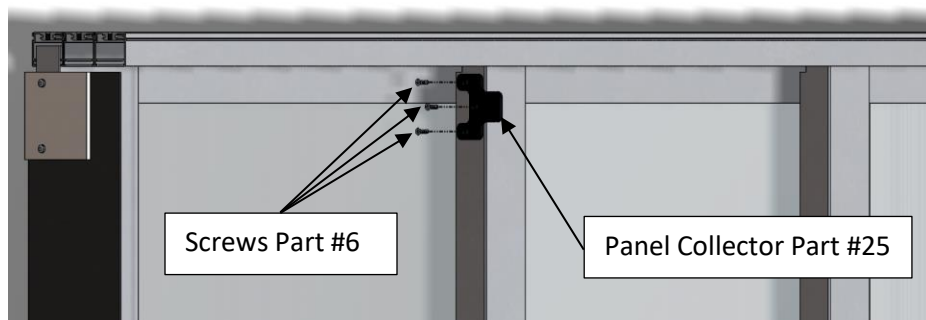

Figure 1
36. Install panel collector (Part #25) on the first intermediate panel using the pre-drilled holes and screws (Part #6) as shown in figure 1. If more than one panel collector is necessary for your configuration (4 panels or more), install remaining panel collectors one at a time and ensure proper alignment as shown in figure 2.
For staggered track doors only, assemblies come with sill and head track end caps attached (Part #26, #27). These are designed for aesthetic purposes to cover the exposed head and sill track faces in the location where the staggered tracks terminate. To remove the end caps for panel installation, simply remove the screws (Part #6) from the head or sill screw channels and remove the caps. When reattaching after panel installation, the track faces should be coated in sealant, and the end cap screwed back onto the face via screw channels as shown in Figures 1 & 2.